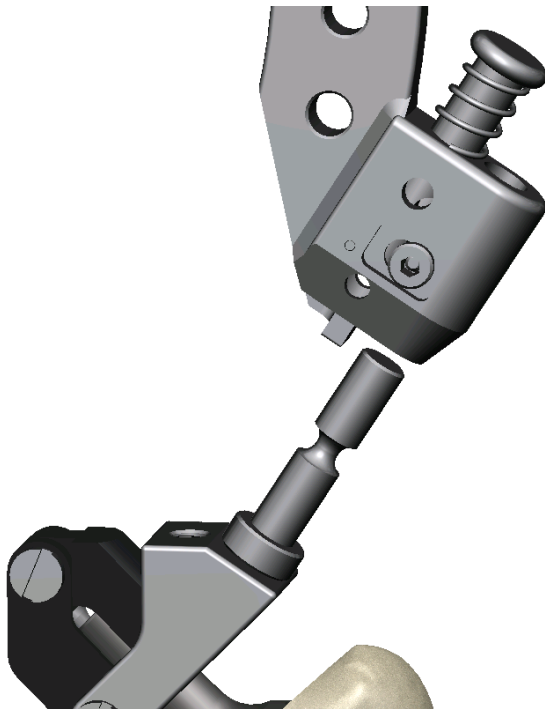
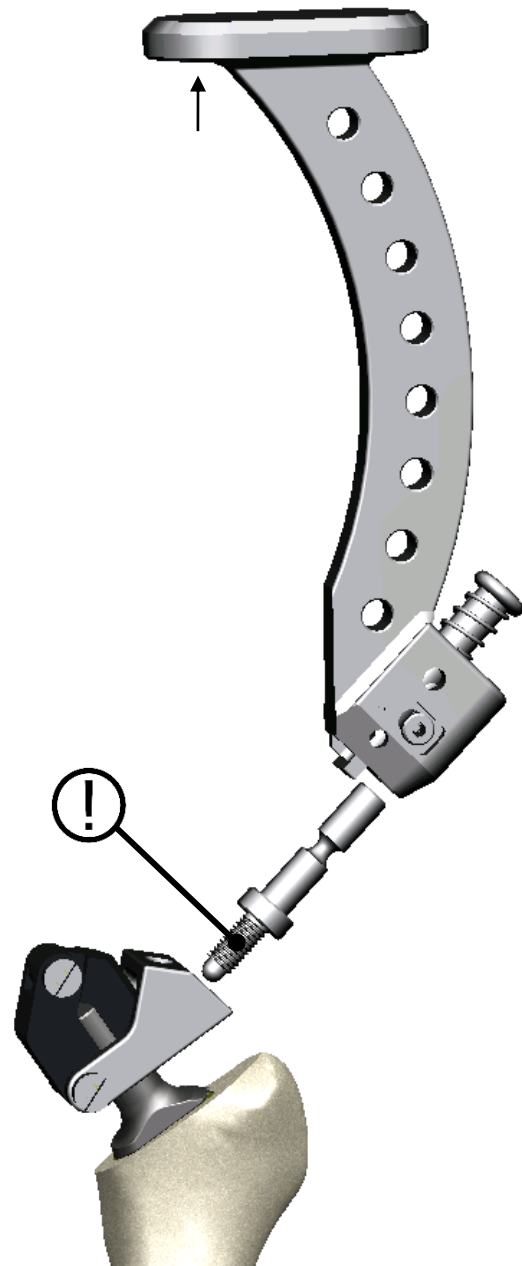

Figure 7: Stem-repositioner with screwed-in Handle Adapter Cylinder Coupling and Rasp Handle bended dismantable (detailed view)
Figure 8: Stem-repositioner with Rasp Handle bended dismantable and Handle Adapter Cylinder Coupling in necessary alignment to the implant
- Taking into account the axis of the stem, screw the *Handle Adapter Cylinder Coupling* into one of the two drill-holes of the *Stem-repositioner* until the cone is firmly in position (Figure 7).
- Connect the *Rasp Handle bended dismantable* to the *Handle Adapter Cylinder Coupling* (Figure 7 and Figure 8).